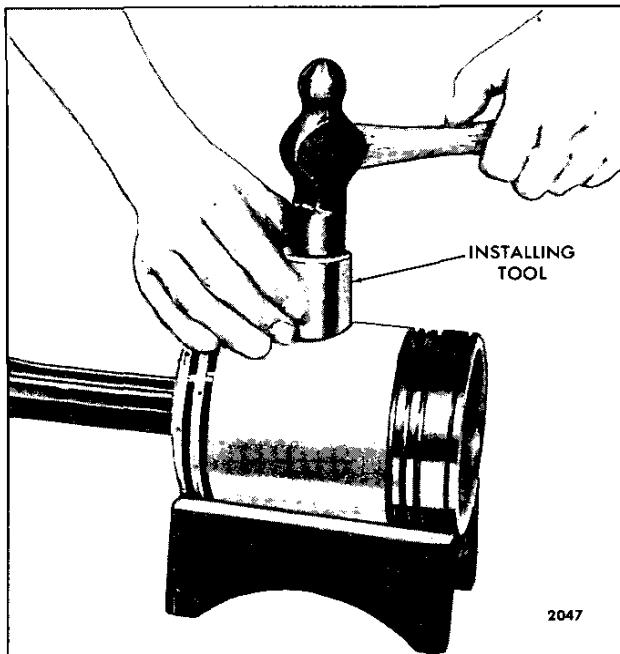

Fig. 8 – Installing Piston Pin Retainer Using Holder J 1513-02
1. Place the "N/A" piston in the holding fixture (Fig. 8).